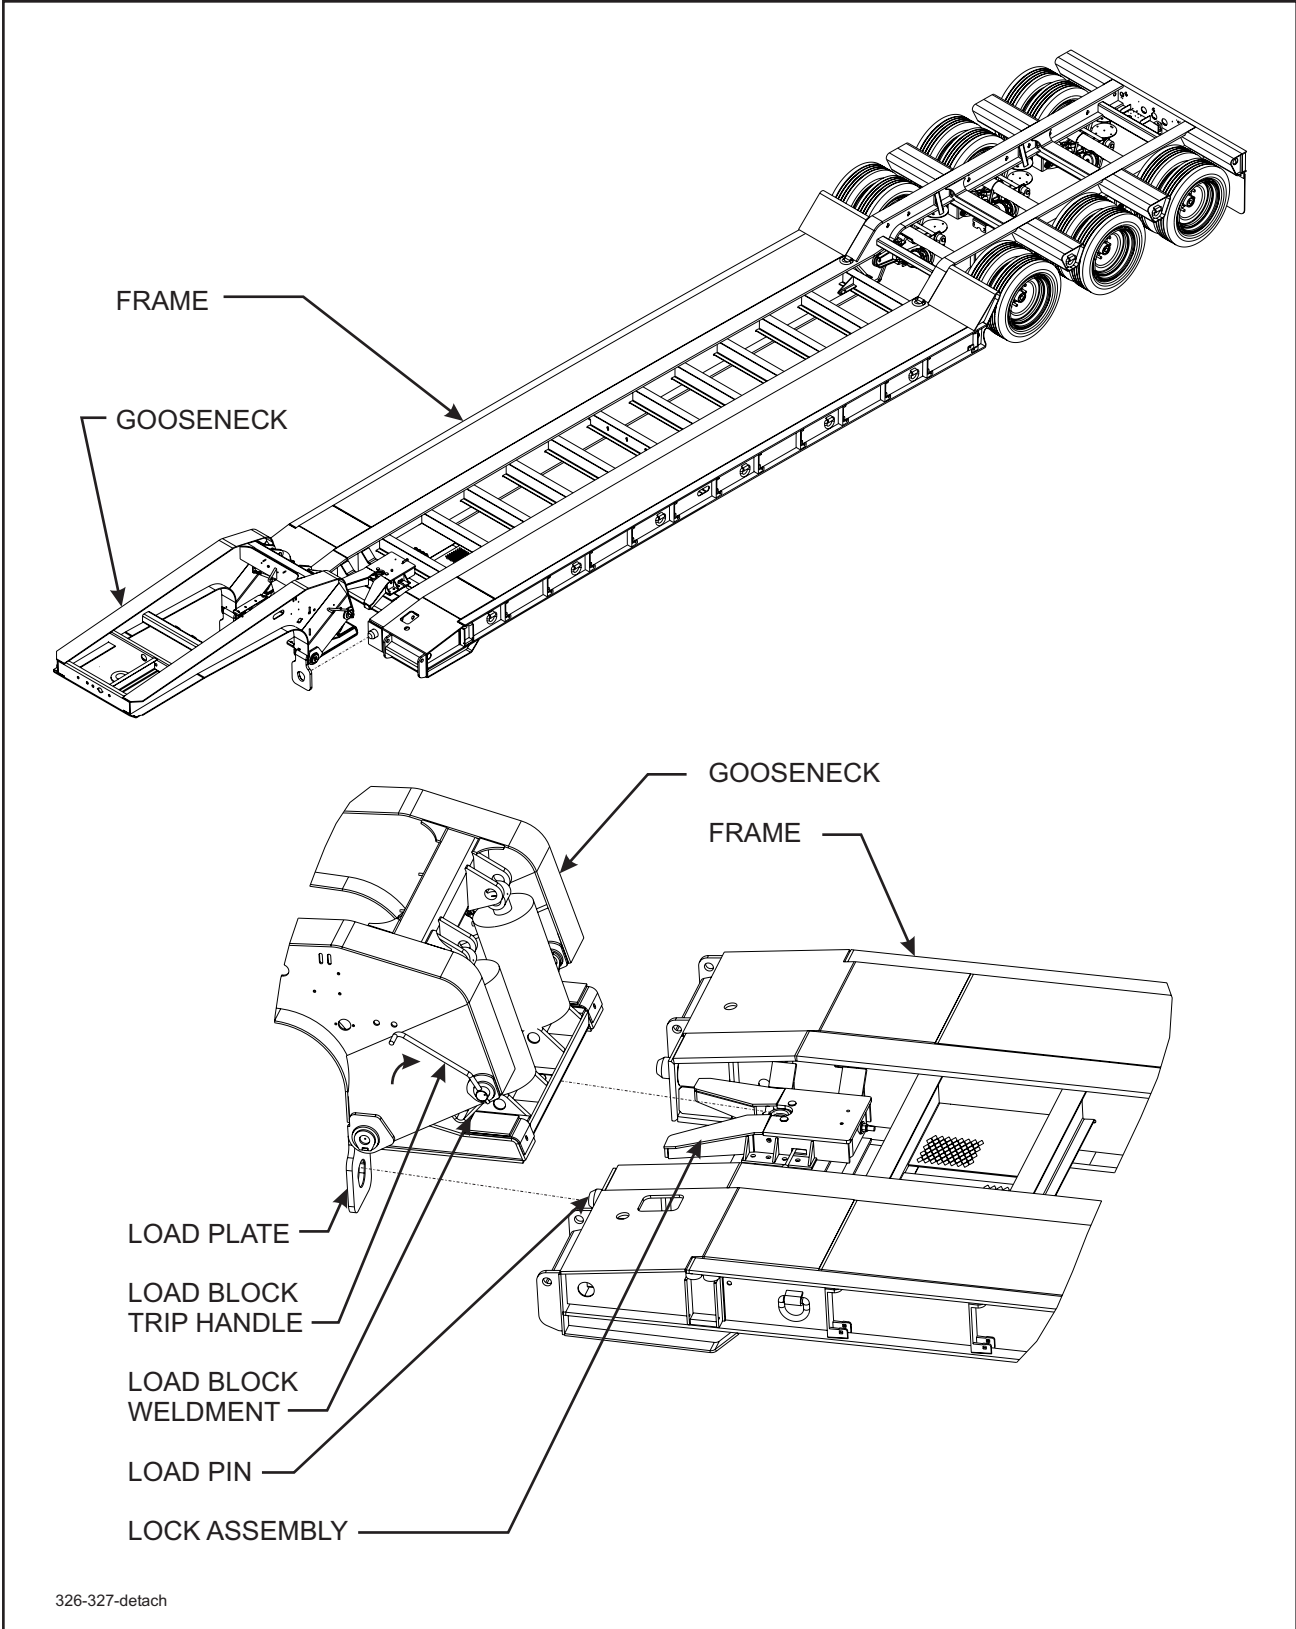

Figure 3-9 Gooseneck Attachment to Frame
- 3-21.2** Park the tractor/semitrailer in a straight line on level even surface. Set the tractor brakes and release the semitrailer brakes (**See Figure 3-9**). Chock trailer wheels.